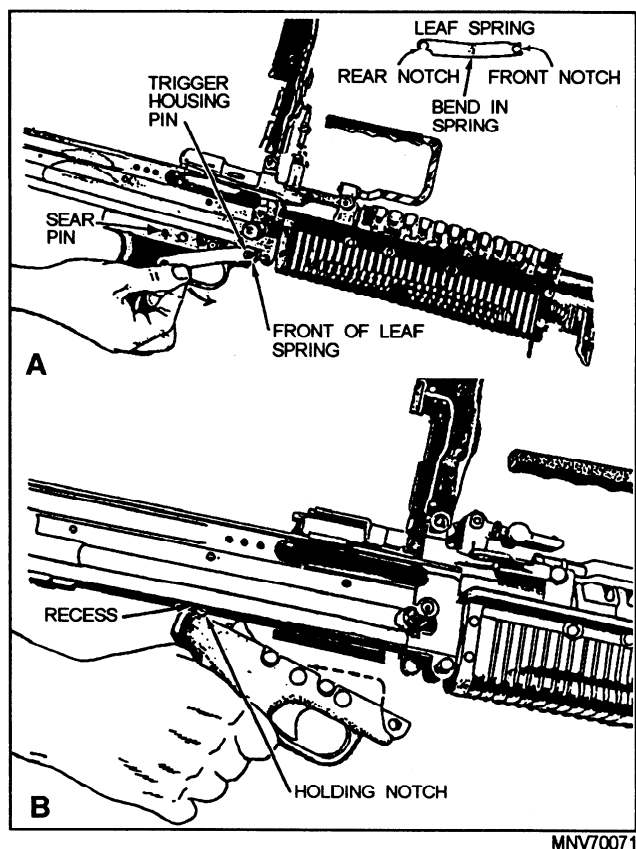

Figure 2-58.—Removing the trigger mechanism grip group.
**REMOVING THE TRIGGER MECHANISM GROUP.**—The trigger mechanism grip group consists of the trigger mechanism grip assembly (trigger housing, sear, sear pin, sear plunger, sear plunger spring, trigger pin, and trigger), trigger housing pin (interchangeable with the sear pin), and leaf spring. To remove the group, press in on the front of the leaf spring and rotate the front end down to clear it from the trigger housing pin as shown in figure 2-58, view A. Pull forward to disengage the rear notch from the sear pin. Remove the trigger housing pin by pushing it to the left. Slide the trigger housing slightly forward, rotate the front of the housing down, and remove it (fig. 2-58, view B).
2. Engage the holding notch of the trigger housing in its recess in the bottom of the receiver (fig. 2-58, view B). Rotate the front of the trigger housing up and align the holes of the trigger housing with the mounting bracket on the receiver. Insert the trigger housing pin from the left. Engage the rear of the leaf spring with the sear pin (fig. 2-58, view A). Make sure the leaf spring is positioned so that the bent portion is pressed against the side of the trigger housing. Rotate the front of the leaf spring up and engage it with the trigger housing pin.